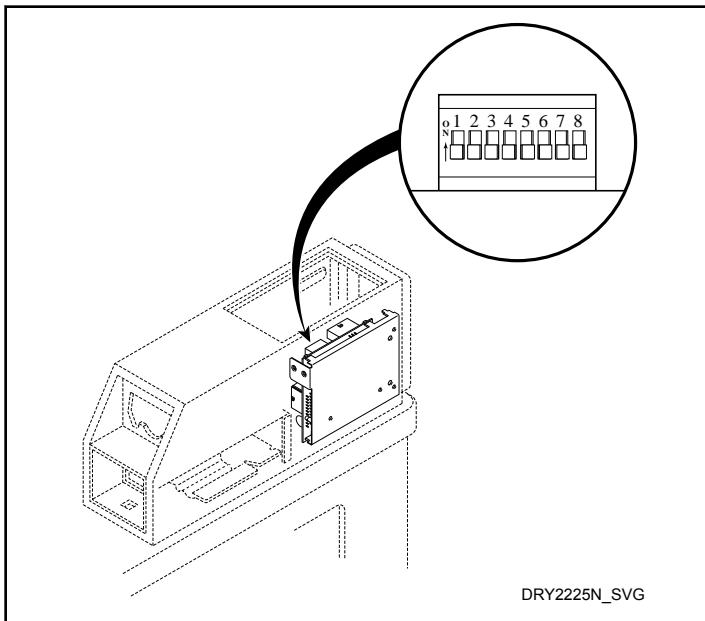

Figure 23
To change the dry time on the dryer, combinations of dipswitches can be set on the control. Refer to *Figure 23*.
2. Record the machine control dipswitch settings. Then set them all to the off position. Refer to *Figure 23*.